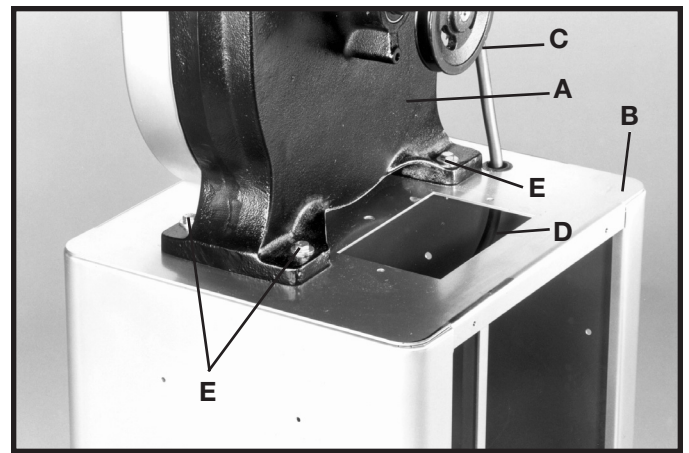

Fig. 6
1. Carefully place the band saw (A) Fig. 6, onto the band saw stand (B). **NOTE:** Position the band saw so the pulley (C) is over the opening (D) in the stand.
2. Align the four holes in the base of the band saw with the four mounting holes in the top of the stand and fasten the band saw to the stand with four $\frac{5}{16}$ -18 x $1\frac{3}{4}$ hex head screws, three of which are shown at (E) Fig. 6, with flat washers and flange nuts.